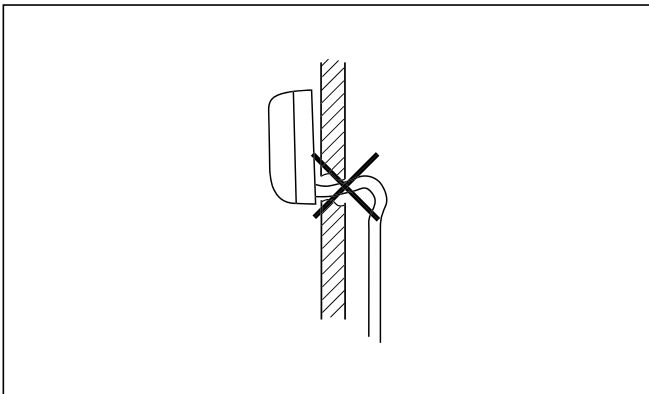

Fig. 9.2 Avoid ascending bends.
- Avoid installing the condensed water pipe with an ascending bend (see Figure 9.2).